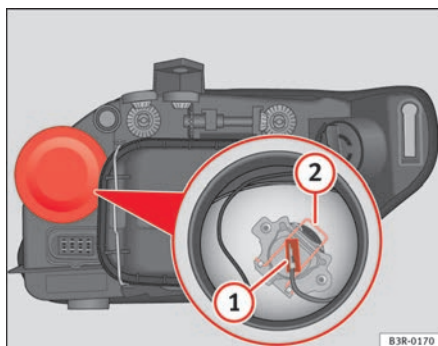

Fig. 192 Main beam headlights
- Remove the connector ⇒ fig. 192 (1) from the bulb.
- Press the spring ⇒ fig. 192 (2) inwards and to the right.